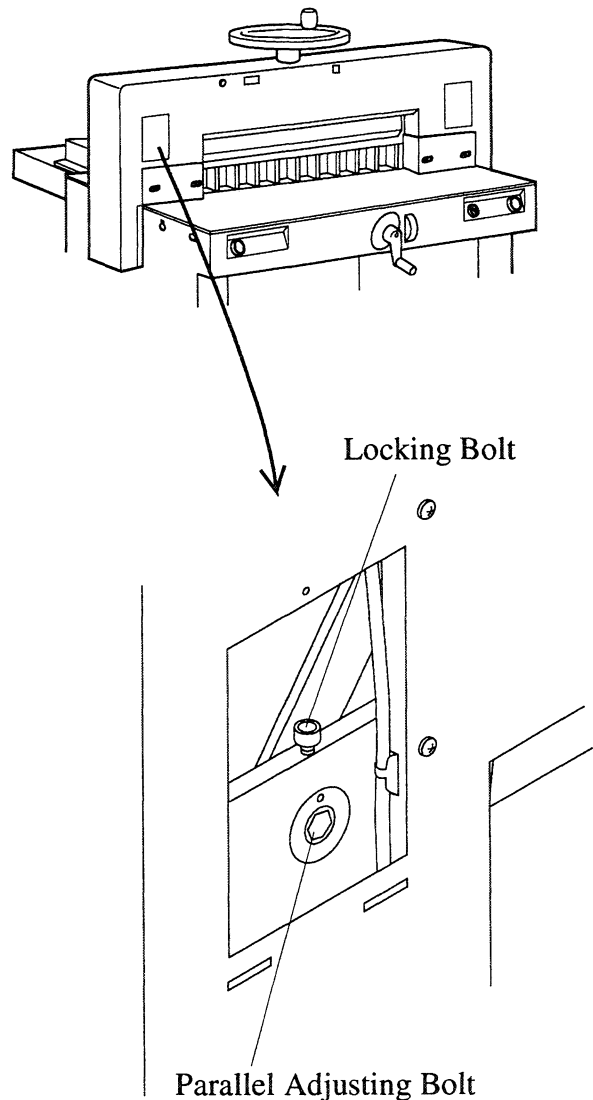

Fig. 5-5
- Loosen locking bolt by supplied allen wrench. (*Fig.5-5*)
- Insert allen wrench into parallel adjusting bolt (*Fig. 5-5*), turn bolt counterclockwise to raise left hand side of knife.